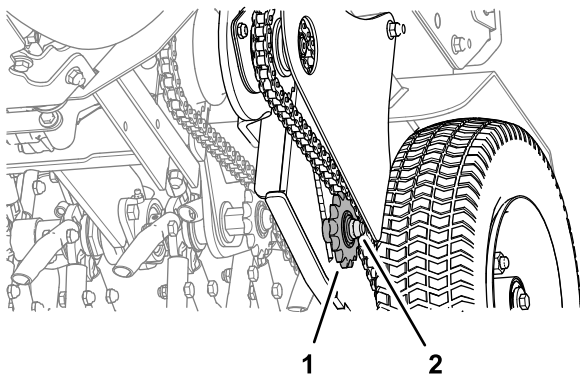

Figure 42
4. To adjust the chain tension, loosen the idler bolt and locknut, and push up on the sprocket to tighten the chain (Figure 42).